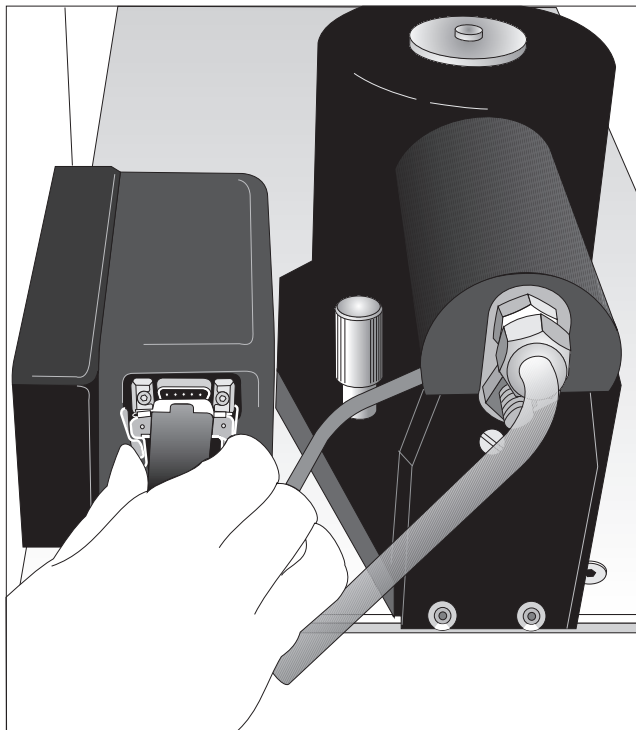

Figure 2.16
7. Plug in the cable from the heat exchanger. (See Figure 2.16 for the cable setup on the DSC 2920. On the DSC 2920 make sure that the spring clip retainers are fully engaged.)